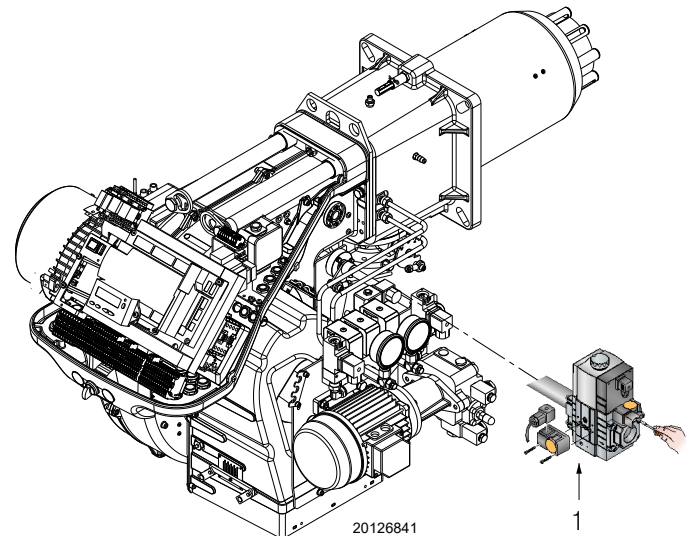

Fig. 42
- Check the gas supply pressure by connecting a pressure gauge to the pressure test point 1)(Fig. 42) of the minimum gas pressure switch: it must be lower than the maximum allowed pressure of the gas train, as shown on the characteristics label.
- Bleed the air from the piping of the gas train, connecting a plastic tube to the pressure test point 1)(Fig. 42) of the minimum gas pressure switch.